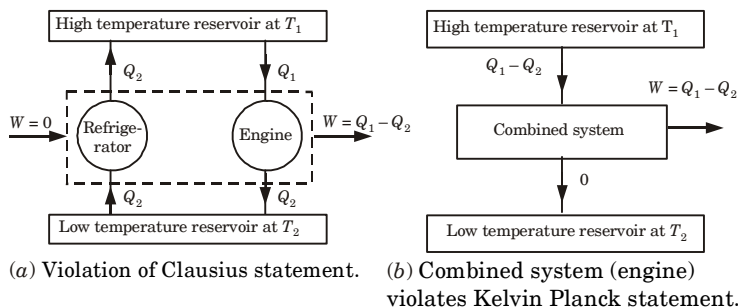

Fig. 4.
- Let's consider a refrigerator which violates Clausius statement as shown in the Fig. 4.